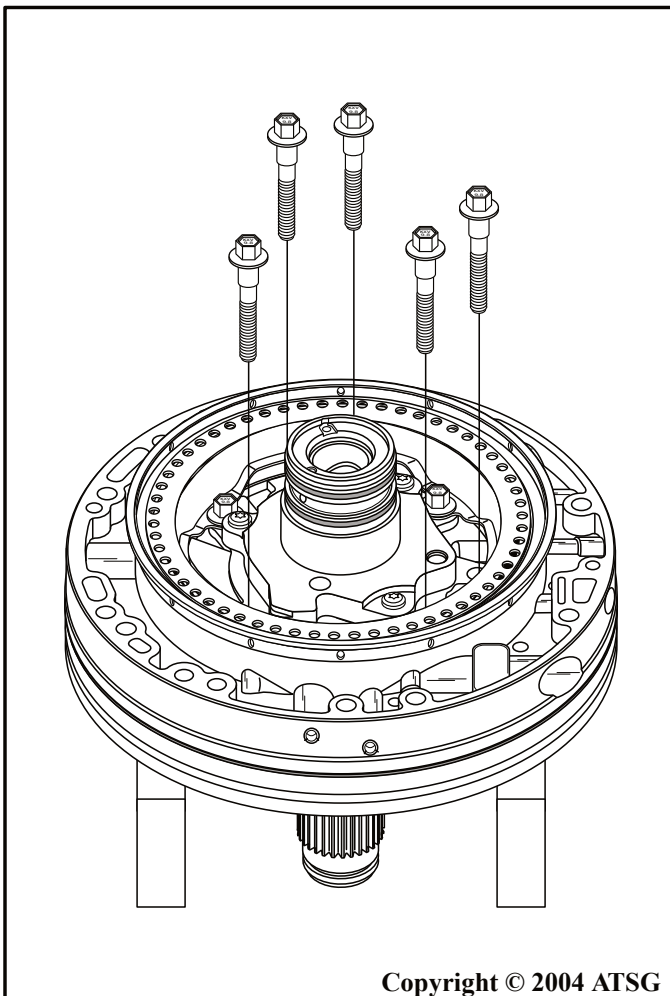

Figure 91
21. Install the 5 remaining pump cover to pump body bolts in the locations shown in Figure 91 and hand tighten only.